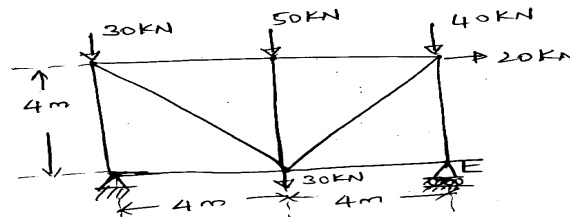

Fig Q.1(c)
- c. Determine the forces on the members of the truss shown in Fig.Q.1(c) by method of joints. 12